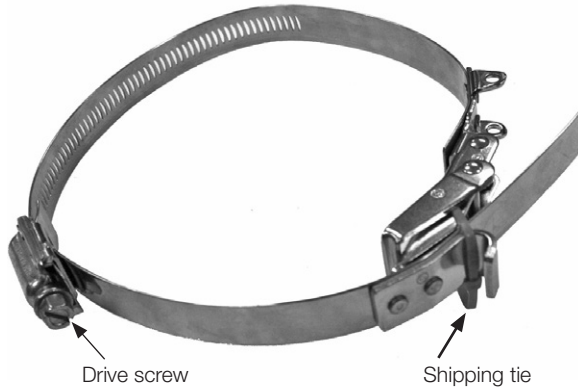

Figure 7. Clamp straps
3. Remove the plastic shipping tie from the clamp straps (Item 4). See Figure 7.
4. Separate the clamp strap sections by unscrewing the drive screw until the sections release. See Figures 7 and 8.